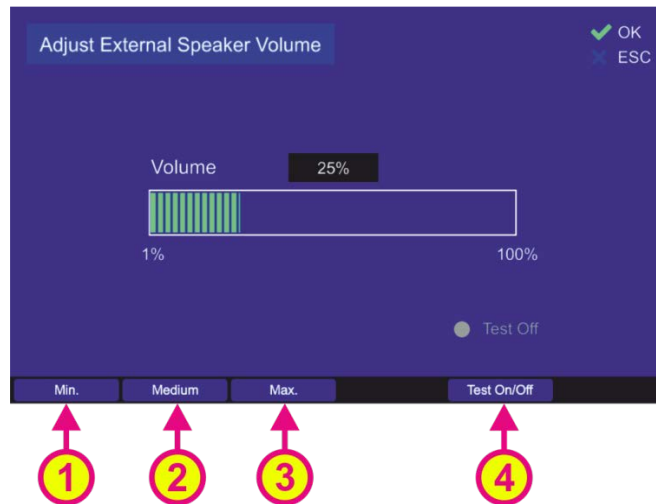

Fig. 166 "Adjust External Speaker Volume" dialog
- Use hotkey "Min." (s. Fig. 166, position 1), "Medium" (Fig. 166, position 2) and "Max." (Fig. 166, position 3) in order to set an appropriate volume.
- Use hotkey "Test On/Off" (Fig. 166, position 4) in order to test volume.